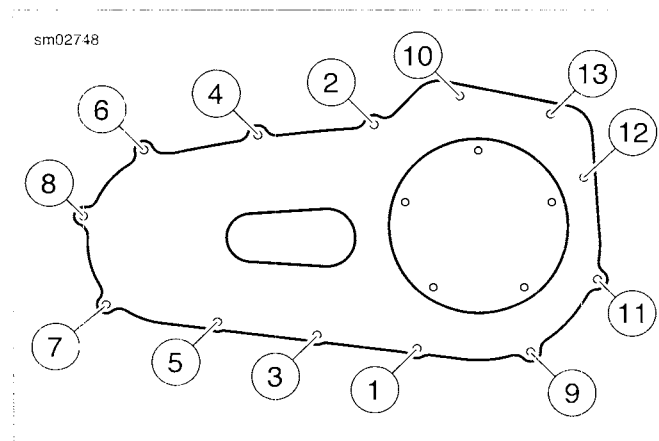

Figure 5-3. Primary Chaincase Cover Torque Sequence
3. See Figure 5-3. Tighten primary cover fasteners (1-13) to 108-120 in-lbs (12.2-13.6 Nm) in the sequence shown.